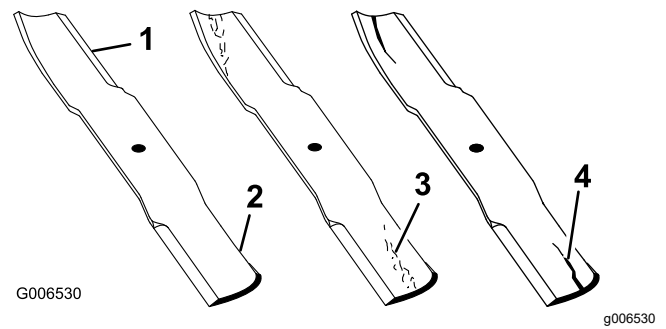

**Figure 96**
1. Inspect the cutting edges (Figure 96).
4. If you notice any cracks, wear, or a slot forming in this area, immediately install a new blade (Figure 96).